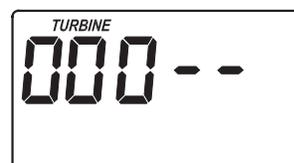

FIG. 16
1. Press and hold the PROGRAM button for a few seconds, until the "000--" screen appears, as shown in Figure 16.